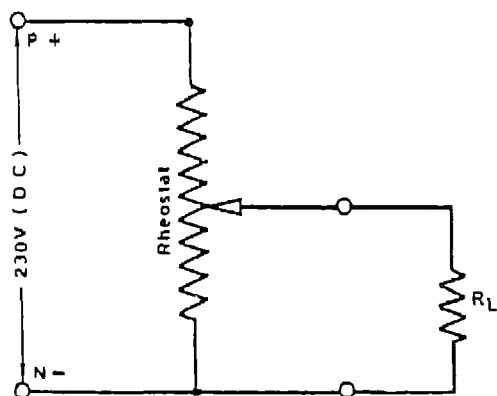
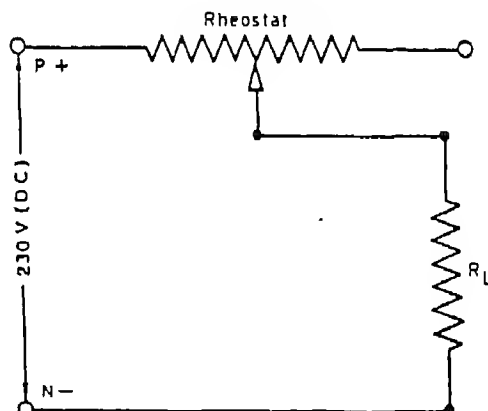

Fig. 3.5
Fig. 3.6
- (iv) Discuss the difference between Fig 3.5 and Fig 3.6 to vary the output voltage across  $R_L$